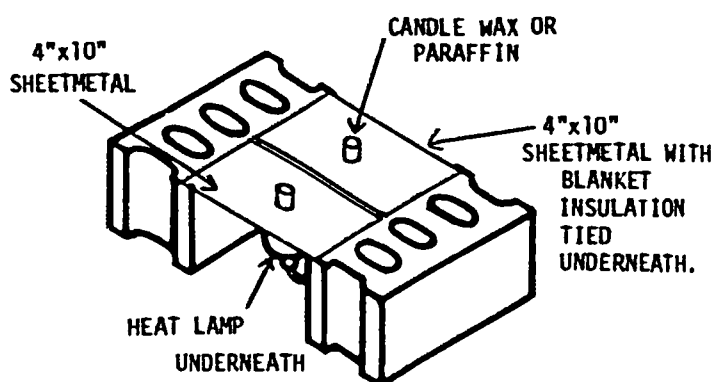
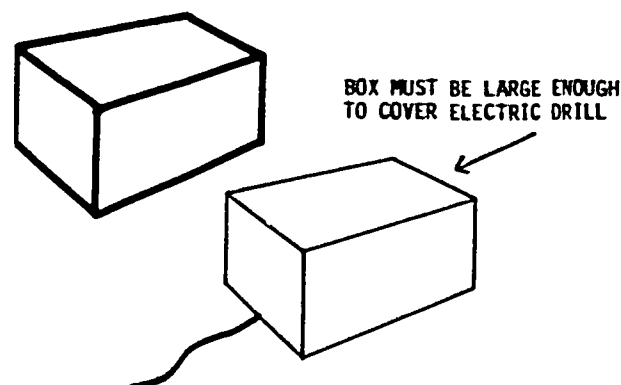

Fig. 115-1. Transfer of Heat from Radiant Source, with and without Insulation
Fig. 115-2. Transfer of Sound Through Insulated and Uninsulated Box Walls
1. Prepare the materials before class as shown in Fig. 115-1 and Fig. 115-2, and arrange them on a bench.